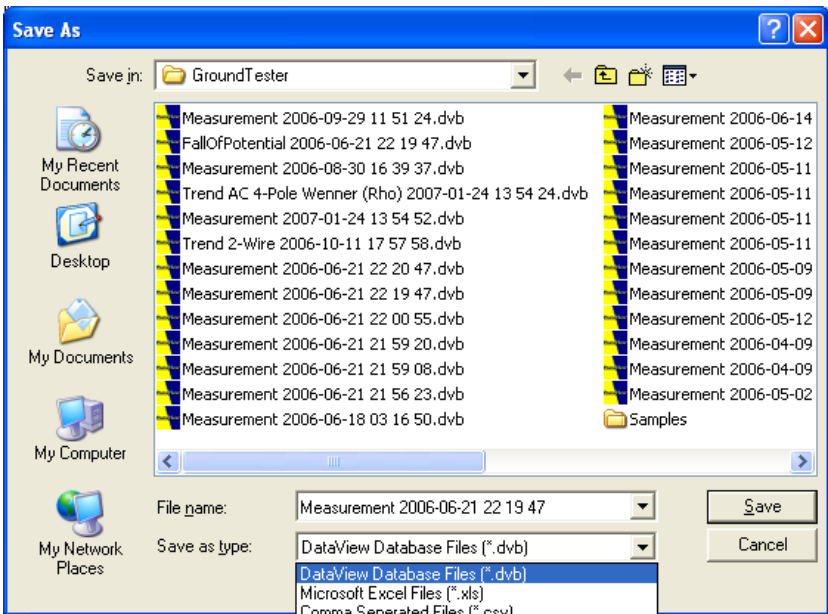

Figure 5-10b
3. Type a name for the downloaded file. In the Save as type drop-down menu (see Figure 5-10b), select either .dwb (saves it as a database to be viewed in DataView), .xls (saves it as an Excel spreadsheet file), or .csv (saves it as a comma delimited file), then and click “**Save**”.